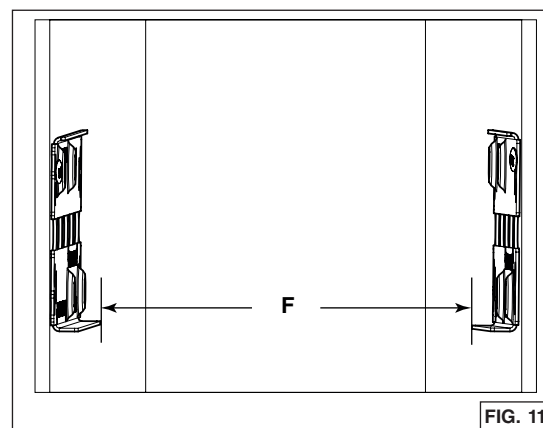

FIG. 11
7. Measure the distance between both bottom bracket edges (F) (FIG. 11). The table below shows the appropriate distance needed.